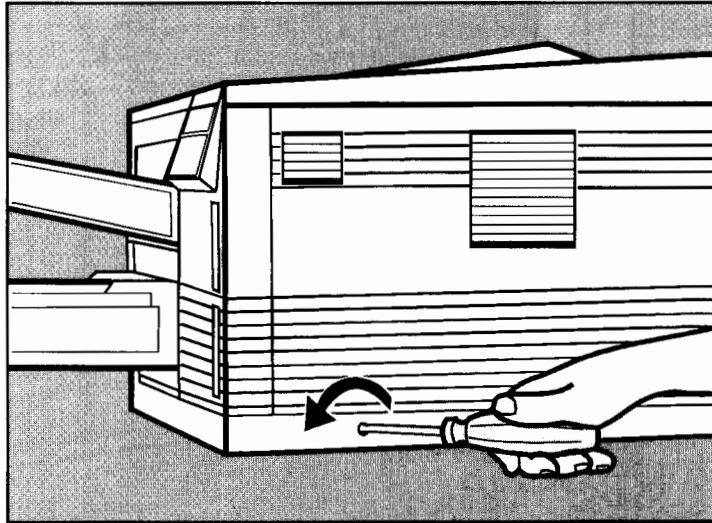

Figure 1-2. Removing Side Panel Screws
5. Use a Phillips #2 screwdriver to remove the two screws at the bottom of the side panel (see Figure 1-2).